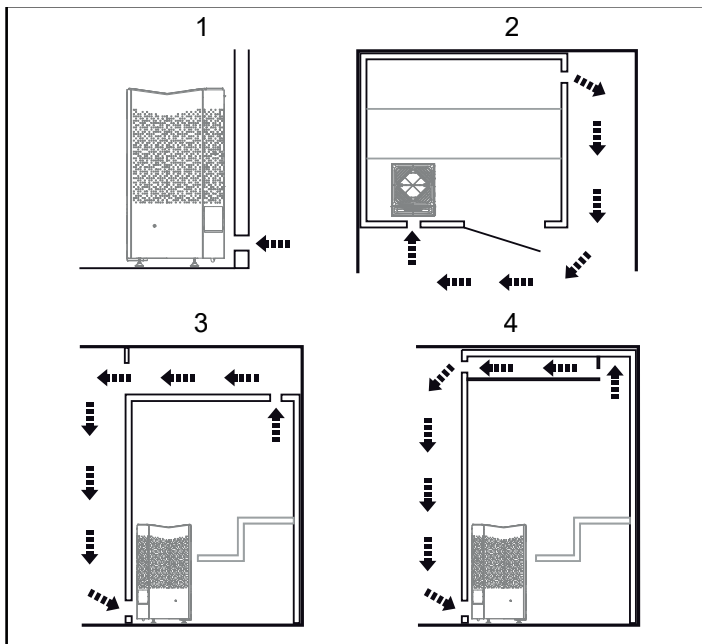

Figure 6: Positioning the air intake and exhaust vents
- Position the air intake vent (see the Air intake vent positioning section, Figure 6).
- Position the air exhaust vent (see the Air exhaust vent positioning section, Figure 6).
- at the maximum possible distance from the air intake vent, e.g. diagonally (see Figure 6).
- high on the wall or in the ceiling (see Figure 6).